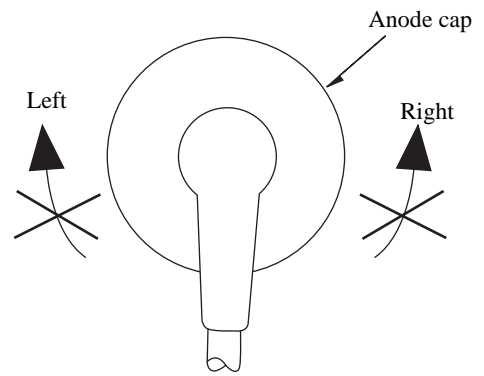

Fig. 1-1
- (1) If the anode cap is turned after it is installed, it may come off. Therefore, arrange the high-voltage cable before attaching the anode cap. (See Figure 1-1)
- (2) If you have attached the anode cap before arranging the high-voltage cable, arrange the cable carefully so the cap does not turn.